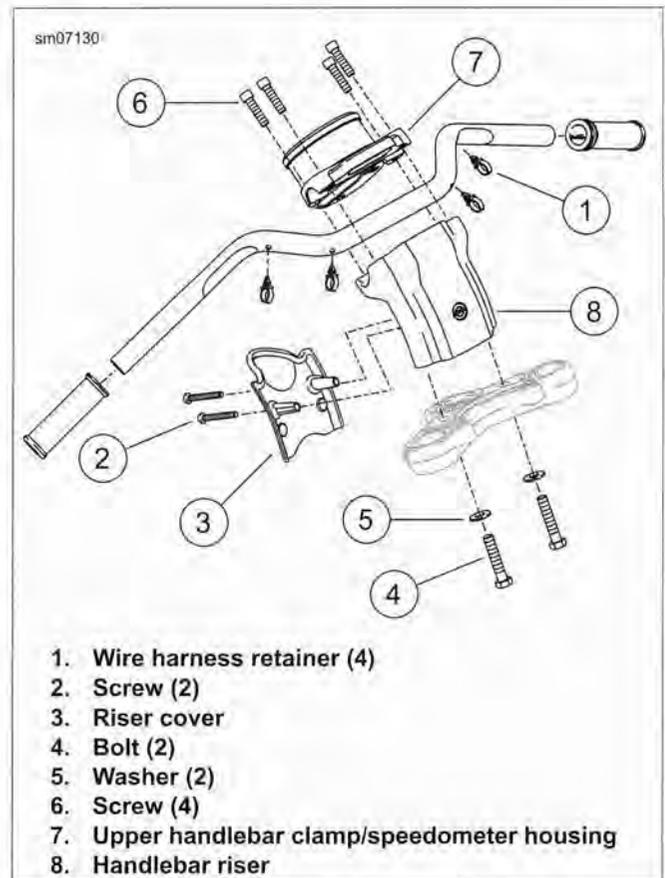

Figure 2-186. Handlebar: XL 1200C/CP Pull Back
1. See Figure 2-186. Cut and remove four wiring harness retainers (1). Discard retainers.
3. Remove two screws (2) and riser cover (3).
4. Remove four screws (6) and upper handlebar clamp/speedometer housing (7). Detach handlebar from riser.
6. If removing riser (8), remove bolts (4), washers (5) and riser from upper fork bracket.
**Pull Back:** See Figure 2-186. See **Removal, XL 1200C.**